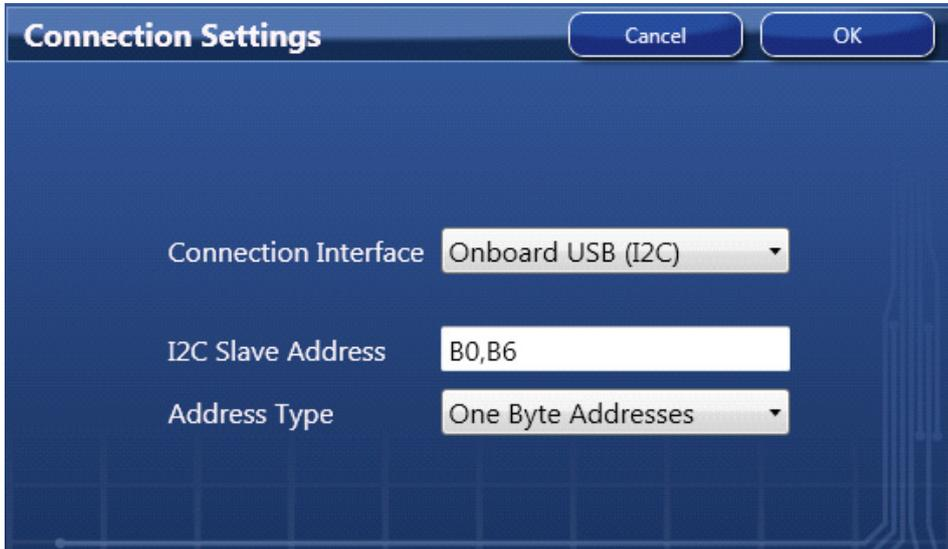

Figure 11. Setting I2C for Connecting the Board with GUI
- In order to connect the board with Timing Commander (PC), click the button (red circle) at the up-right corner of the GUI to set up the communication protocols (see Figure 10). After I2C and one-byte addressing are selected, click OK to close the window (see Figure 11).